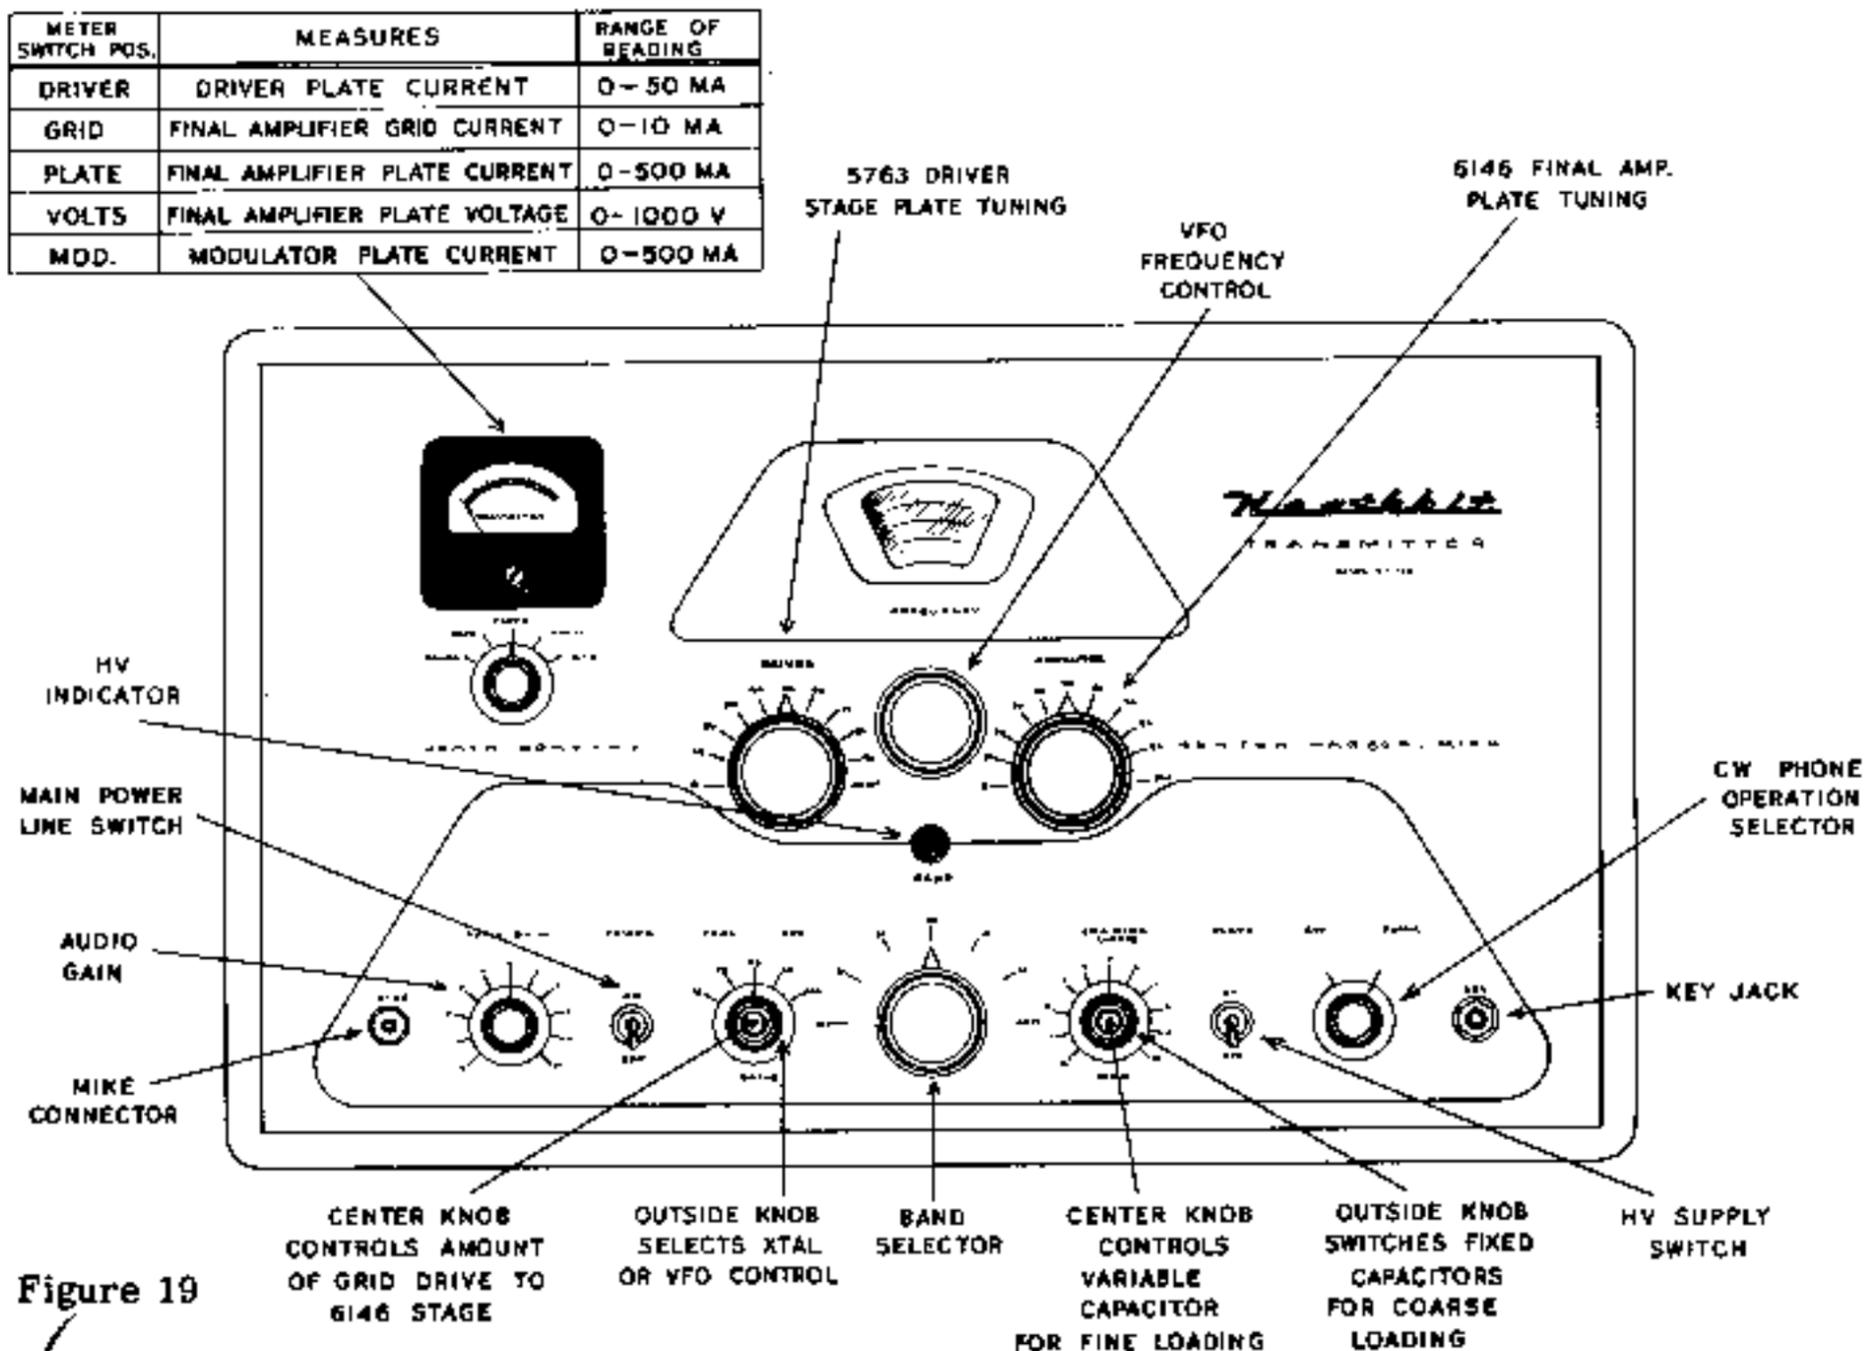

Figure 19
**NOTE:** See Figure 19 for a description and the location of all operational controls on the transmitter before beginning the tuning procedure. A knowledge of each control function will assist in accomplishing the tuning without difficulty.